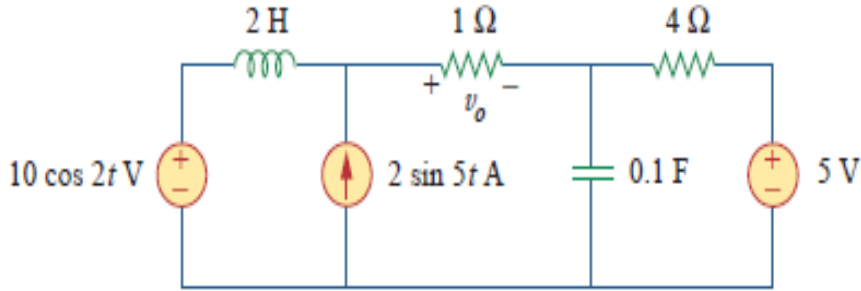

Fig.3
c) Find voof the circuit of Fig. 3 [8M] 3